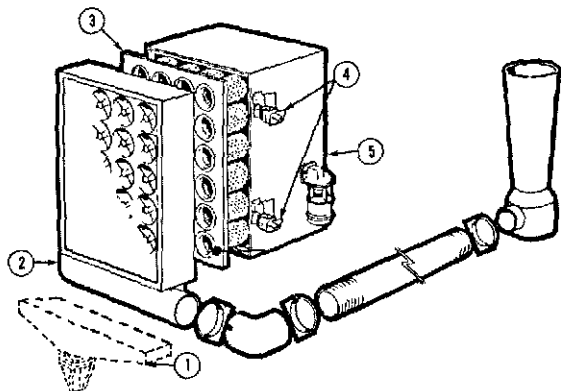

Fig. 2-17 (N21026) Air cleaner — cartridge type (two stage)
1. Loosen wing nuts (4, Fig. 2-17 or 2-18) on air cleaner housing (5) to remove pre-cleaner panel with dust bin (1). To remove pre-cleaner panel (2) equipped with exhaust aspirator loosen "U" bolt clamp securing pre-cleaner to aspirator tubing.
2. Remove dirty Pamic cartridge (3), by inserting fingers in cartridge opening. Loosen all four corners of cartridge, one at a time, by pulling straight out.
2. To install a new cartridge, hold cartridge (3, Fig. 2-17 and 2-18) in same manner as when removing from housing. Insert clean cartridge into housing; avoid hitting cartridge tubes against sealing flange on edges of air cleaner housing.
4. Replace pre-cleaner panel (2) and tighten wing nuts (4) by hand, for final tightness turn 1-1/2 to 2 turns with a small adjustable wrench. Do not overtighten. On pre-cleaner with exhaust aspirator, assemble aspirator tube to pre-cleaner panel and tighten "U" bolt.